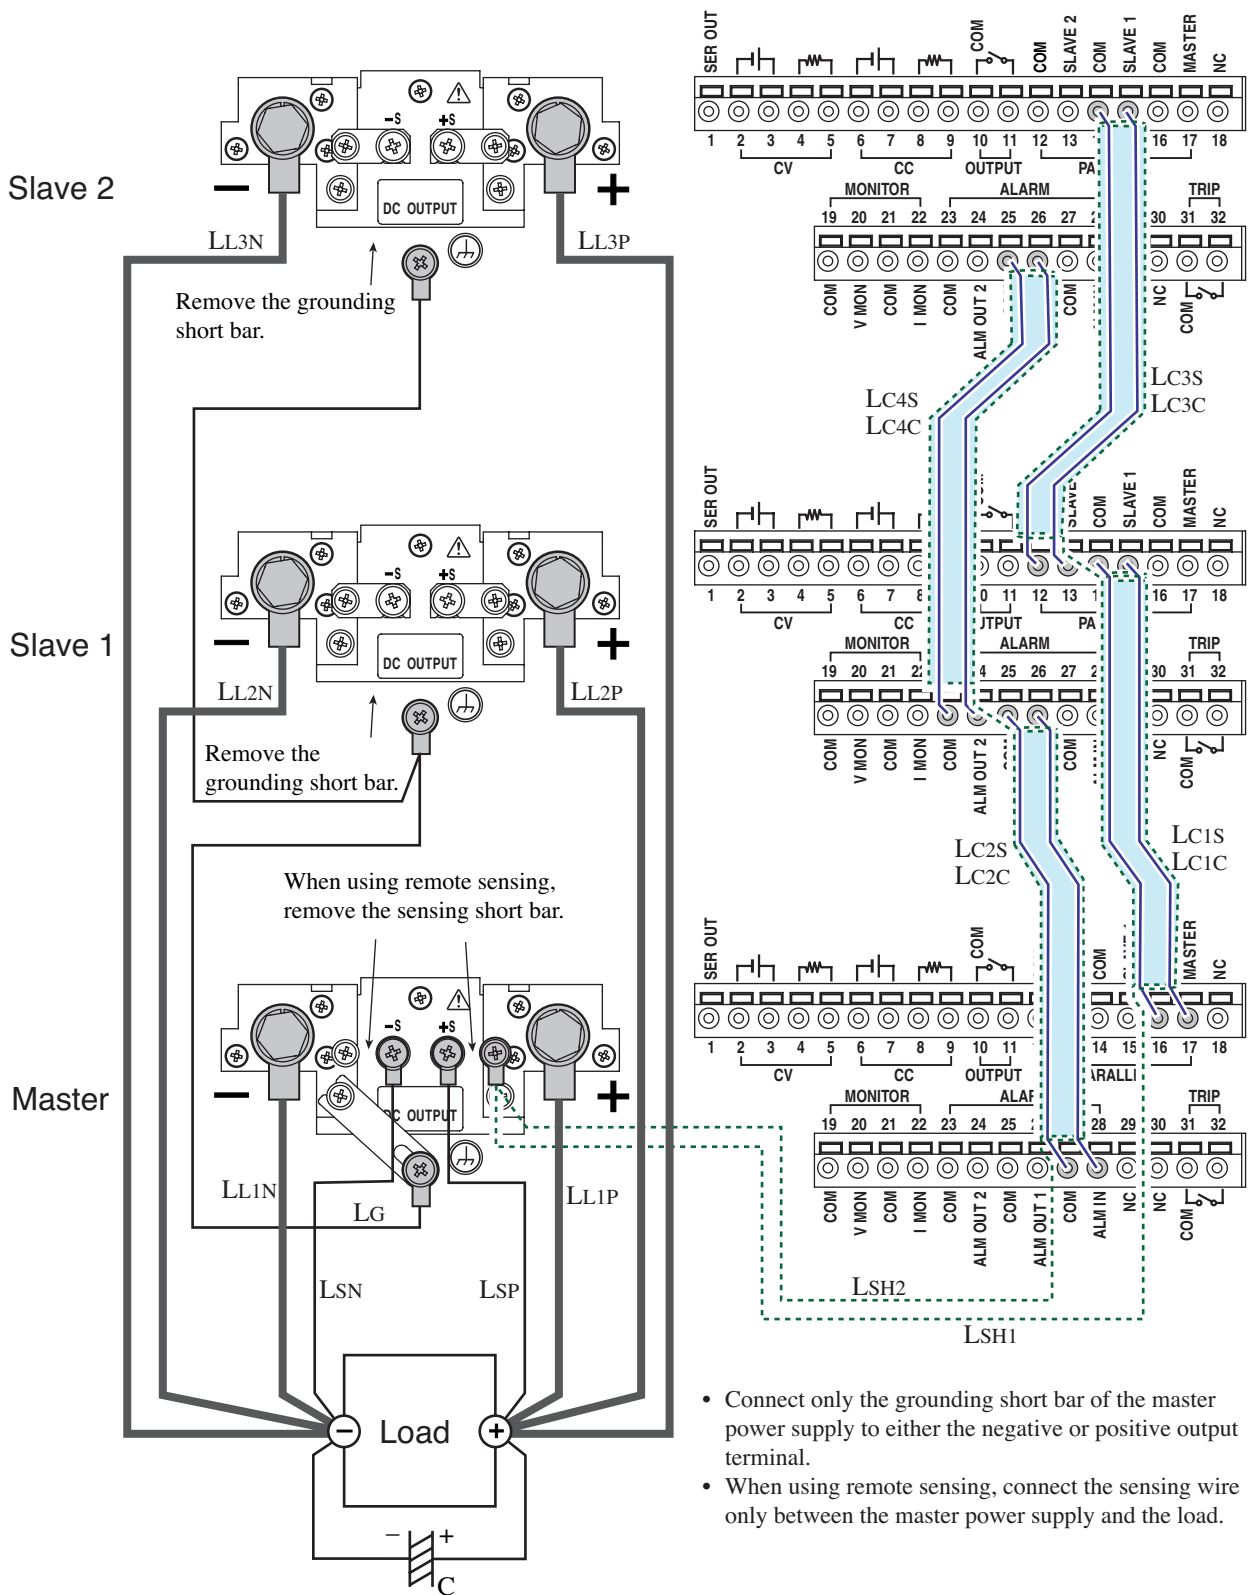

Fig. 4-16 Master-slave parallel operation connection
6. Connect the master and slave power supplies as shown in Fig. 4-16.